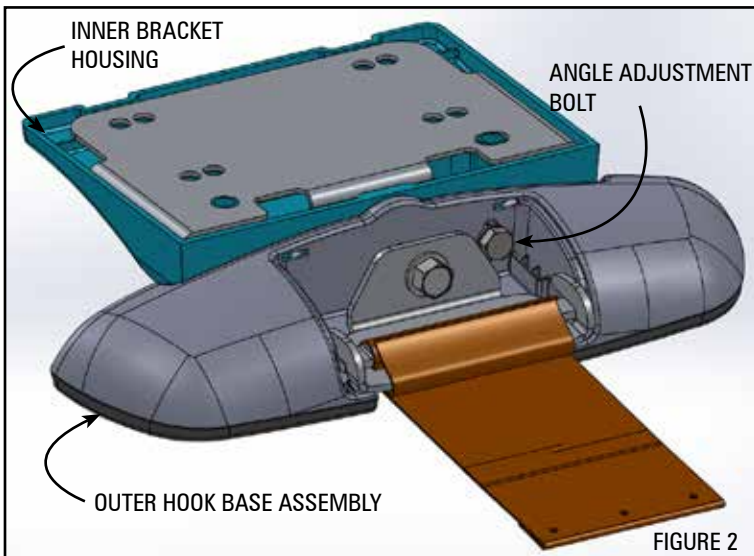

FIGURE 2
4. Adjust the horizontal angle of the bar by loosening the 1/4" angle adjustment bolt, adjusting the bar to be horizontal between the inner bracket housing and the outer hook base and then retightening 1/4" angle adjustment bolt. (Figure 2, Page 1)